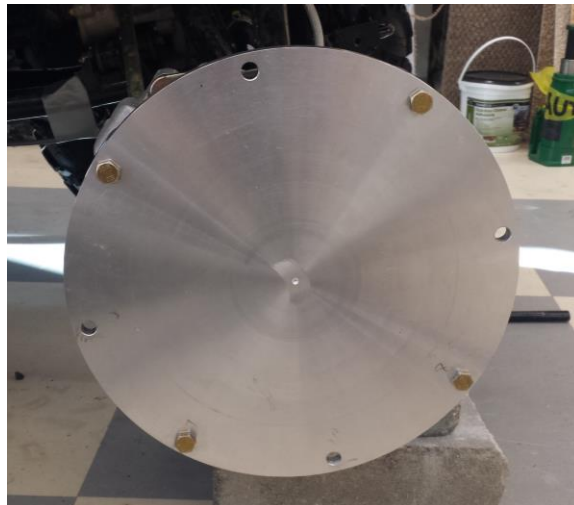

Figure 5 Inner plate
5. (Figure 5) Place inner plate on hub adapter and attach with M8x1.25 bolts. Tighten bolts to 25 lbf ft with a 13 mm socket.